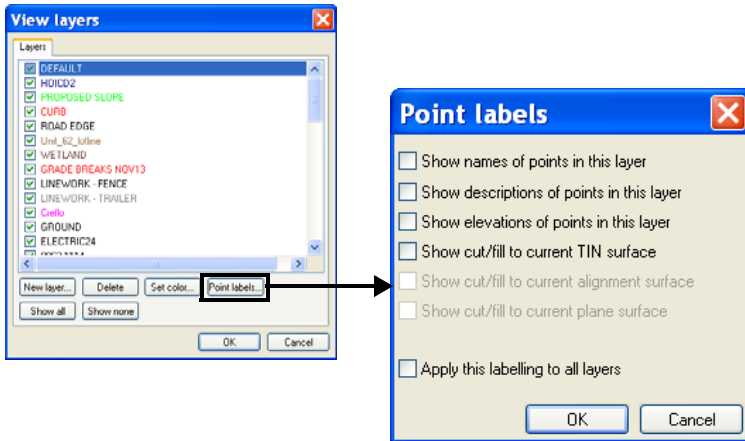

Figure 3-11. View Point Layers
To view, add, or edit layers, click **Points ► Layers**. The **View layers** dialog box displays each layer in the points file and its display status on the Plan View (Figure 3-11 on page 3-10).
- **Point labels** – press to display the **Point labels** dialog box (Figure 3-11 on page 3-10).